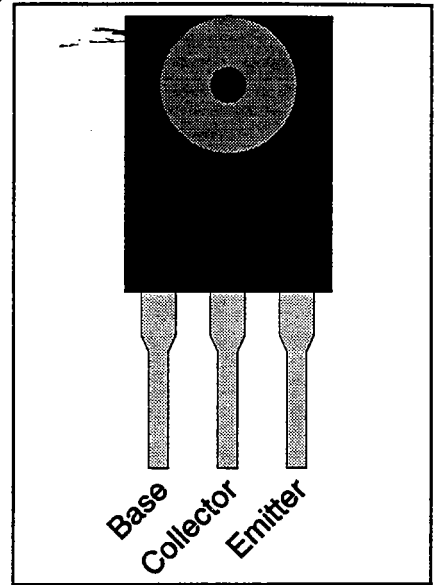
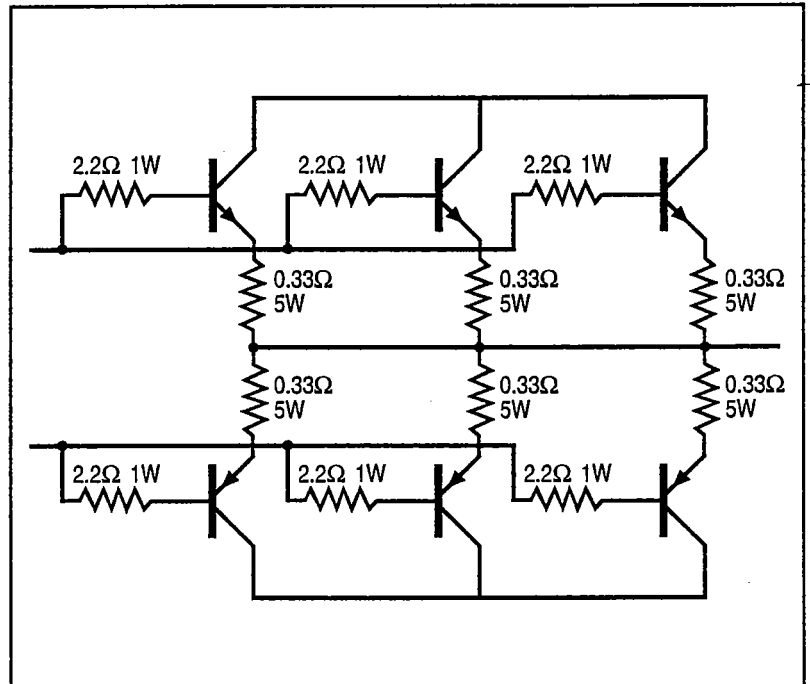

Figure 5-1. Power transistor front view and pinout
Figure 5-2
*The legs of the transistors mounted on the heatsink are **base**, **collector**, and **emitter**, from left to right (Figure 5-1). If there is a shorted device on either rail, all of the devices will show either a short or a very low resistance, because all of the emitters of the low rail are connected through .33 ohm 5 watt resistors all of the bases are connected through 2.2 ohm 1 watt resistors, and all of the collectors are connected together on the board (Figure 5-2).*